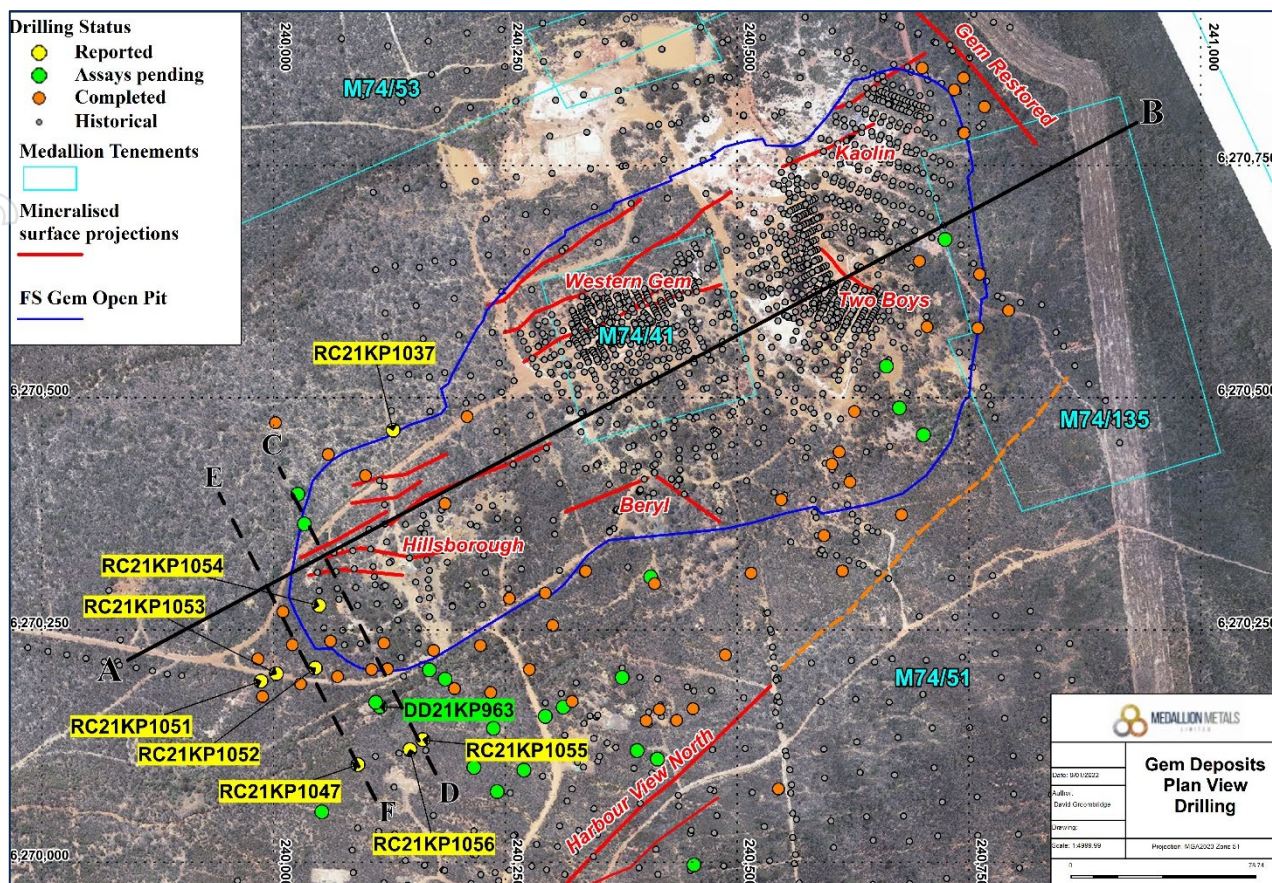
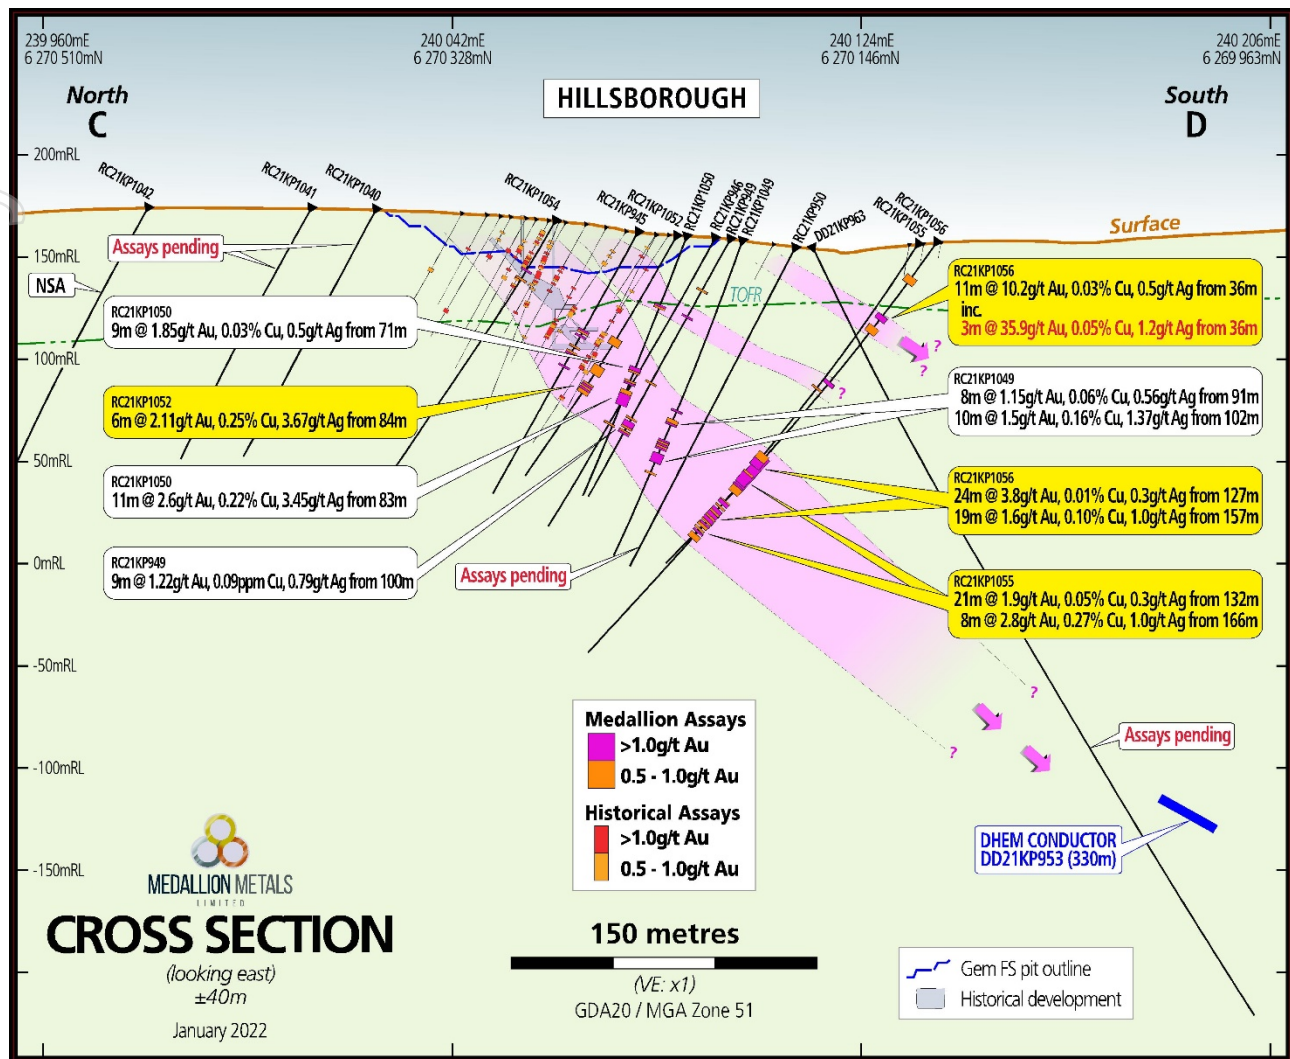

Figure 2: Plan view of Gem showing reported drillhole collar positions with FS Gem open pit outline.
Figure 4: Cross section at Hillsborough looking east with drill intercepts highlighted (greater than 0.5g/t cut-off).
The Hillsborough workings are situated at the western end of the Gem deposit (Figure 2) where an extensive line of historical shafts can be observed. Mineralisation at this end of Gem is characterised by en-echelon pyrite-chalcopryrite-quartz lodes dipping to the south at ~60° and plunging to the southwest. Ongoing drilling along strike and beneath the Hillsborough workings is being undertaken with the objective of improving confidence in, as well as extending the known resources at Gem. The 2020 Feasibility Study (FS)2 demonstrated a substantial pit would optimise at the western end of Gem (Figure 4). The Company views potential strike and depth extensions of the deposit in this area as a compelling opportunity to add high margin ounces to the mine plan.
Drill hole DD21KP963 was drilled to the south of the Hillsborough workings targeting the steeply west dipping Harbour View deposit (Figure 4). A down-hole electromagnetic (DHEM) survey was completed on the hole in October 2021. Whilst no on-hole anomalies were directly identified, a strong off-hole anomaly with modest lateral extent and very high conductivity was identified around 330m. The conductor exhibits a sharp anomaly that implies the edge of the conductor is located close to the hole and situated towards the south of the hole. The DHEM modelling indicates that the conductor is situated ~250m down-dip of mineralisation identified in RC21KP1055 and RC21KP1056.